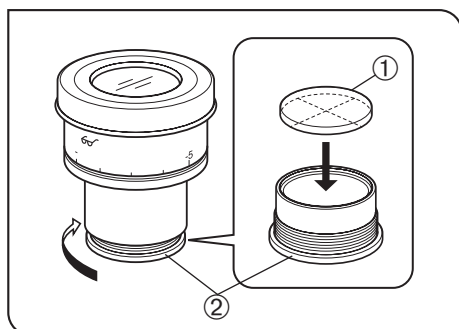

Fig. 36
3 Using the Eyepiece Micrometer Disk (Fig. 36)
Following Fig. 36, turn the built-in micrometer-mounting frame ② counterclockwise to remove it from the eyepiece and place a micrometer disk ①.